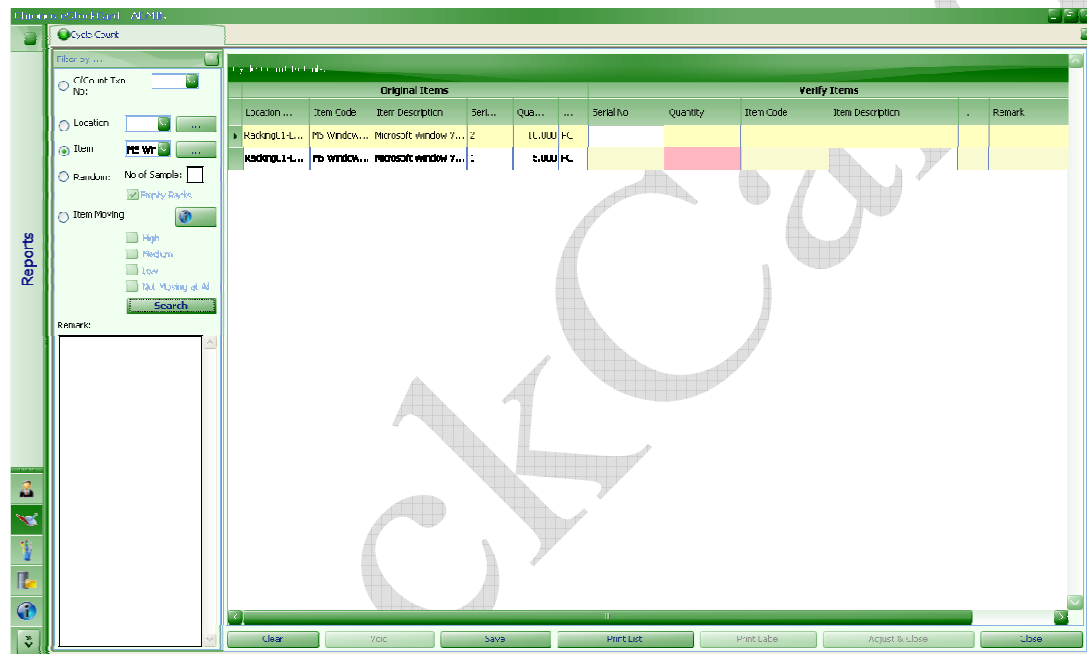

Fig. 55
Step 2 Select “MS Windows Vista Business” from item code drop down and click “Search” (Fig. 55)